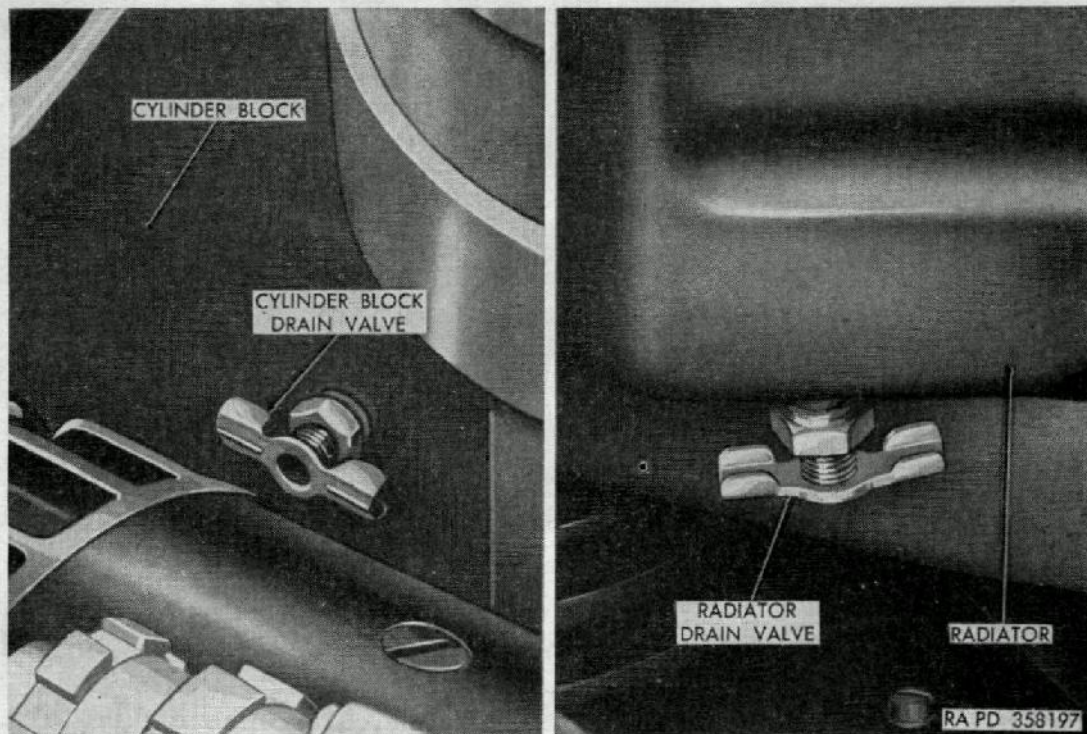

Figure 72. Cooling system drain valves.
valve (fig. 72). Open the cylinder block drain valve (fig. 72) to drain cylinder block of coolant. When cooling system has drained completely, close radiator and cylinder block drain valves.
Remove drive belts (par. 124). Open radiator drain valve (fig. 72) and drain until coolant level is below the level of water outlet elbow (fig. 71).
(2) *Flushing.* Completely drain cooling system (*a* above). Close drain valves, fill system with clean water, and start engine. Open drain valve in radiator (fig. 72) and while water is draining from drain valve, run fresh, clean water in at top of radiator. Do this until water runs clean. To reverse flush the cooling system, drain completely (*a* above), close drain valves, and remove hose from water outlet elbow.